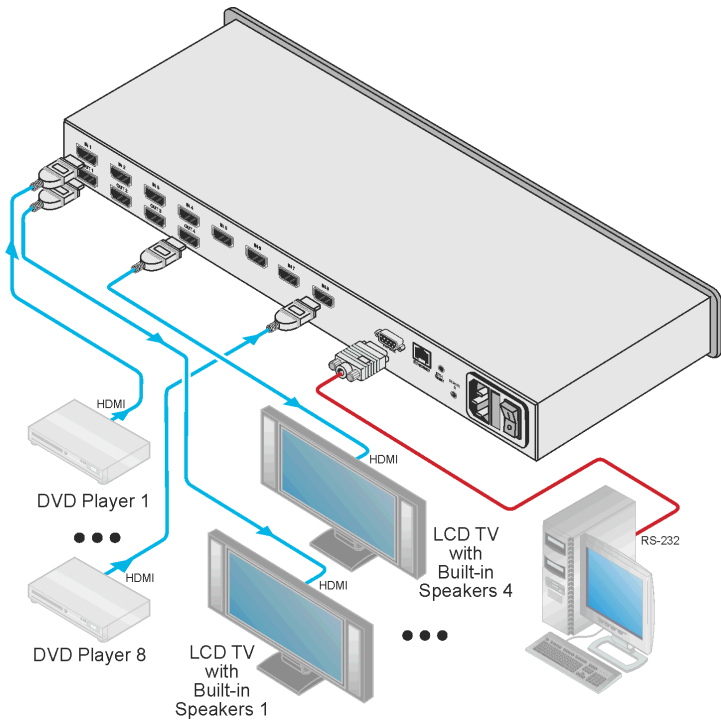

Figure 3: Connecting the VS-84HN 8x4 HDMI Matrix Switcher
To connect the **VS-84HN 8x4 HDMI Matrix Switcher** as illustrated in the example in Figure 3:
4. Connect the device to the mains electricity (not shown in Figure 3).